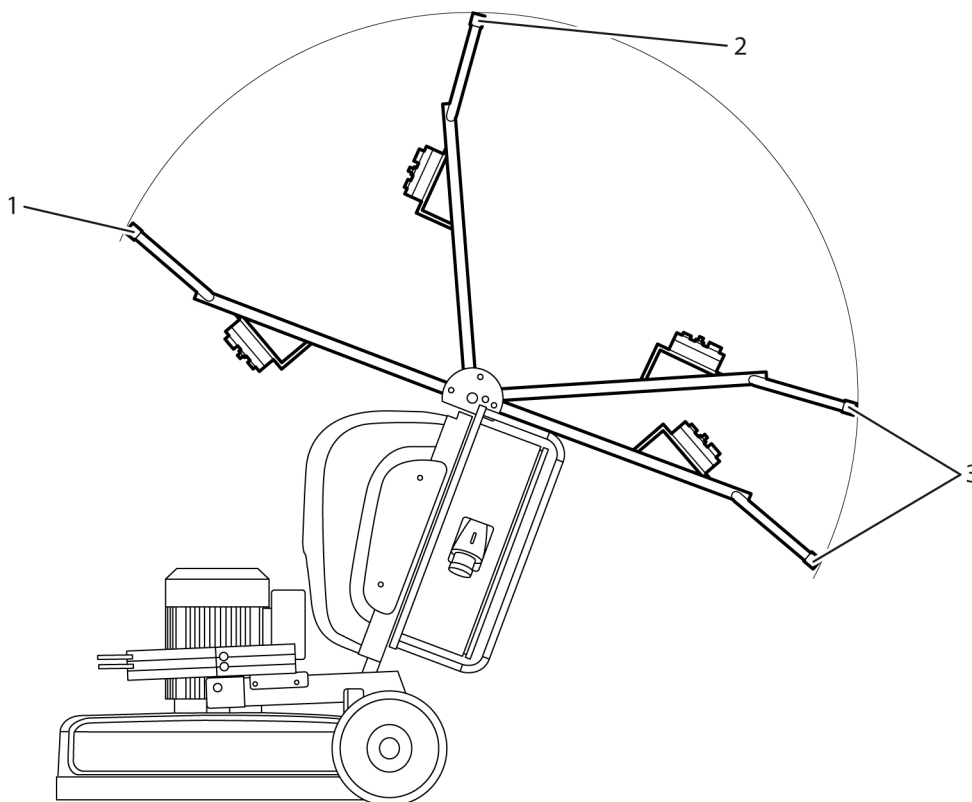

Figure 4-1. Handle settings
1. Set the handle to the rear position - see *Figure 4-1, page 12*
4. Set the handle to the working position, see *Figure 4-1, page 12*.